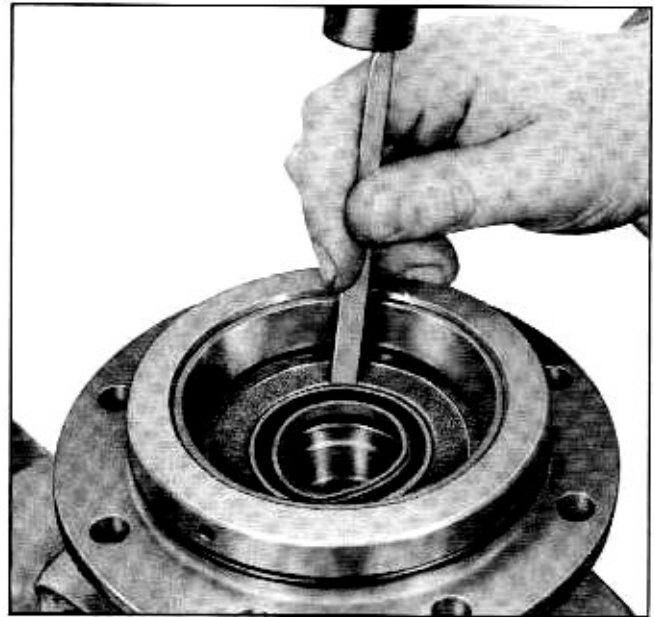

Fig. 4-42 Removing Rear Pinion Oil Seal
3. Remove rear oil seal from retainer using small chisel or other suitable tool (Fig. 4-42).